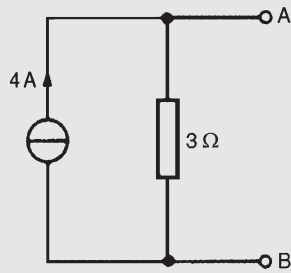

Figure 13.70
**Problem 19.** Convert the network shown in Fig. 13.70 to an equivalent Thévenin circuit.
The open-circuit voltage  $E$  across terminals  $AB$  in Fig. 13.70 is given by: